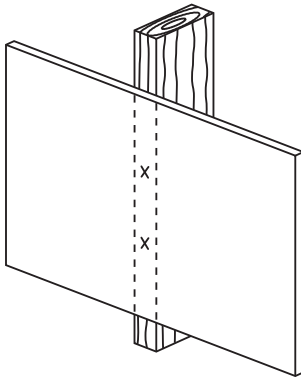

Fig. 1
3. Mark the two locations for securing the wall plate and set the wall plate aside (see Fig. 1).